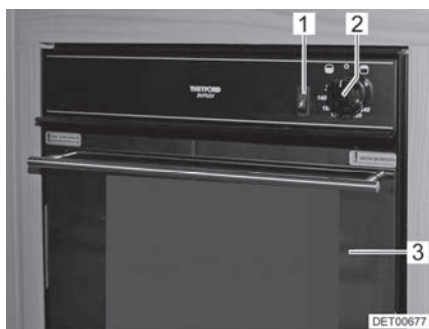
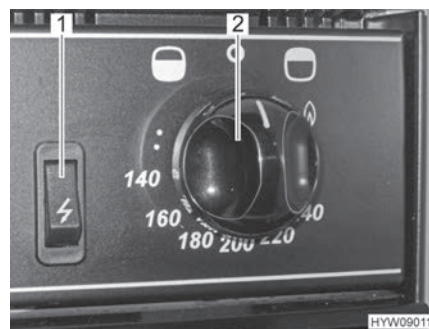

Fig. 101 Gas oven with grill
Fig. 102 Operating controls (gas oven with grill)
- Fully open the oven flap (Fig. 101,3).
- Press the control knob (Fig. 101,2 and Fig. 102,2) and set it to the maximum setting anticlockwise (towards the oven symbol "☼").
- Press the control knob (Fig. 101,2 and Fig. 102,2) and hold it down for 5 to 10 seconds. Gas will stream into the burner.
- Keep the ignition switch (Fig. 101,1 and Fig. 102,1) pressed until the flame burns.
- Press the control knob (Fig. 101,2 and Fig. 102,2) and turn it clockwise (towards the grill symbol "☼") in the direction of the flame symbol.
- Turn the control knob (Fig. 101,2 and Fig. 102,2) to "O". The flame fades.